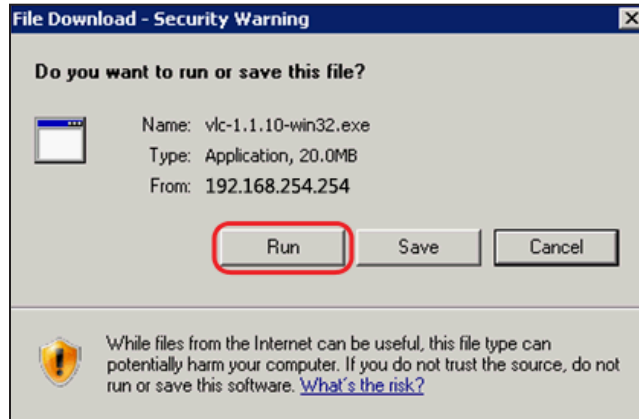

Figure 42. File Download Window
3. A File Download window appears. Click **Run** to download and start the VLC media player installation (see figure 42).